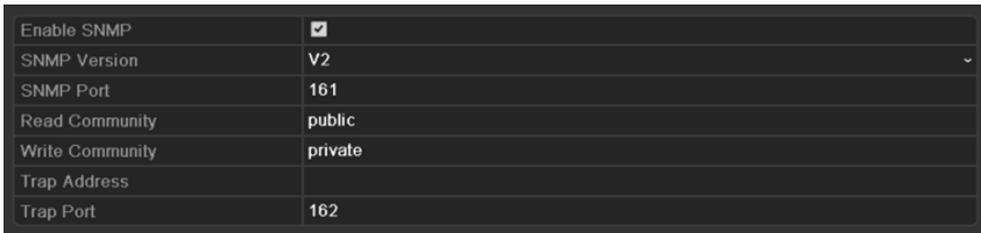

Figure 9. 14 SNMP Settings Interface
2. Select the **SNMP** tab to enter the SNMP Settings interface, as shown in Figure 9. 14.